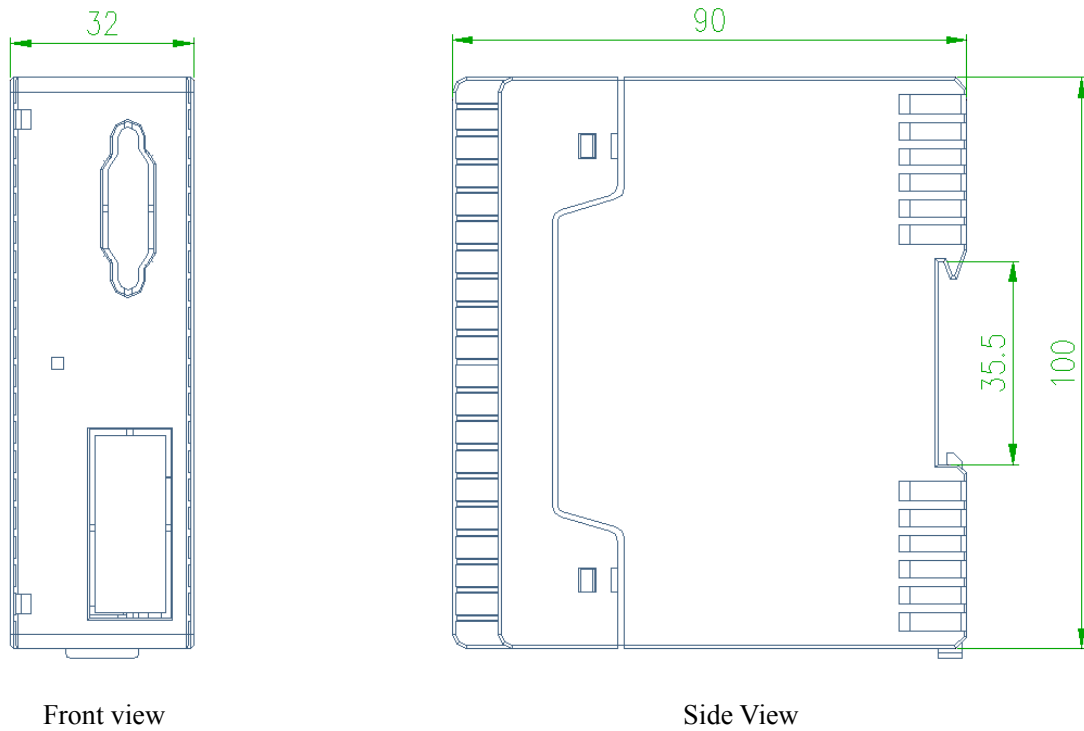

Figure 7 Overall dimensions of PROFINET, single-channel PROFIBUS_DP and Ethernet communication module
5.2.2 The external dimensions of PROFINET communication module, single-channel PROFIBUS_DP communication module and Ethernet communication module are shown in Figure 7. Each communication module is installed with guide rail: